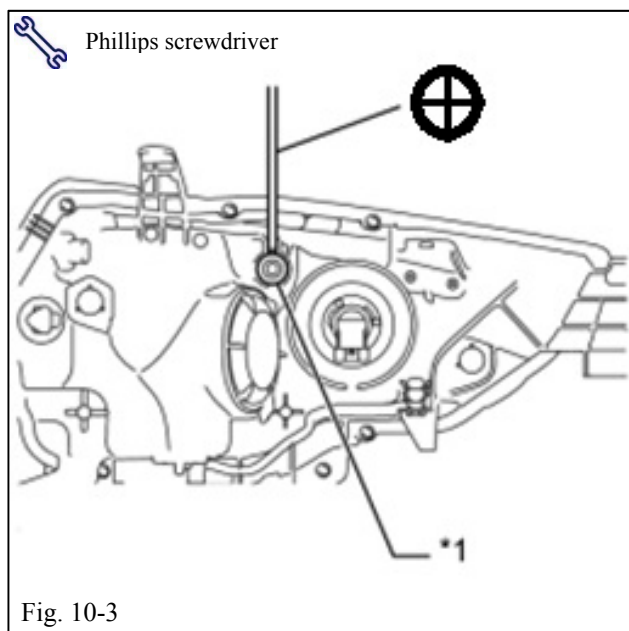

Fig. 10-3
- (2) Turn on the headlamps.
- (3) Adjust the headlight aim to within the specified range by turning aiming screw “V” with a screwdriver (Fig 10-3).